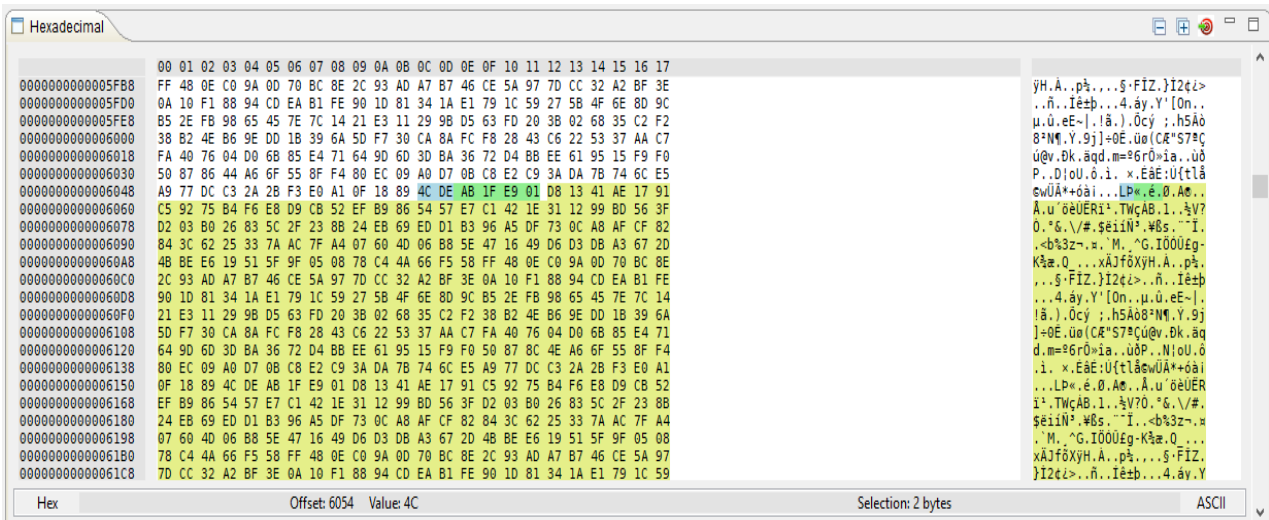

Figure 18: Hexadecimal View with Standard Sections
The Hexadecimal view, shown in Figure 18, displays the bytes of the files in two areas, indexed by the offset from the beginning of the file:
- The bytes related to the selected item in the Contents List View are highlighted – the fields directly below the parent node of the hierarchy are highlighted with different colours. Figure 18 shows these fields (usually representative of *standard packet sections*) in green, yellow and blue.
- The bytes related to the selected element in the Content Details View are highlighted. This selection is represented in pink on Figure 18.
The values of the offsets on the left of the octet table and, on the information bar, the offset and value of current selection can be displayed in either decimal or hexadecimal. To toggle between these two modes, the user has just to double click over the Representation label – “Hex” on the bottom left of Figure 18. The value of the label is either “Hex” or “Dec” according to selected representation (Hexadecimal or Decimal, respectively).